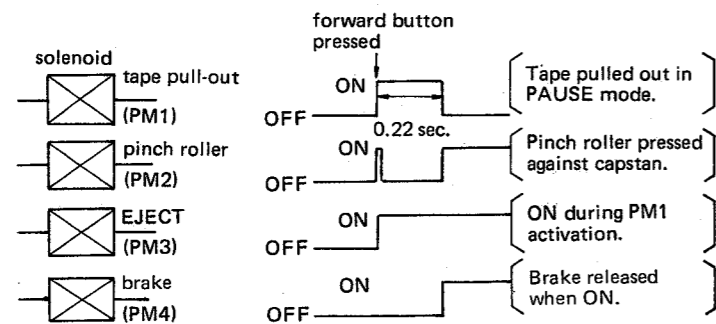

Fig. 1-10.
(3). Solenoid drive circuit (Figs. 1-10, 11, 12)
b) The brake signal (route ⑫) turns Q725 and 726 ON, activating the brake solenoid (PM4) in order to release the brake (routes ⑬ ⑭). However, during activation of the tape pull-out solenoid (PM1) (approx. 0.22 seconds) the brake signal is grounded via D720. Therefore, Q725 and 726 turn OFF, and the brake solenoid (PM4) prevented from acting.
During activation of the tape pull-out solenoid (PM1) or the brake solenoid (PM4), the EJECT solenoid (PM3) activates to mechanically lock the EJECT button. So even if it is pressed during forward, fast forward or rewind mode, the cassette will not eject (route ⑮). The operations described above are summarized in Fig. 1-10.